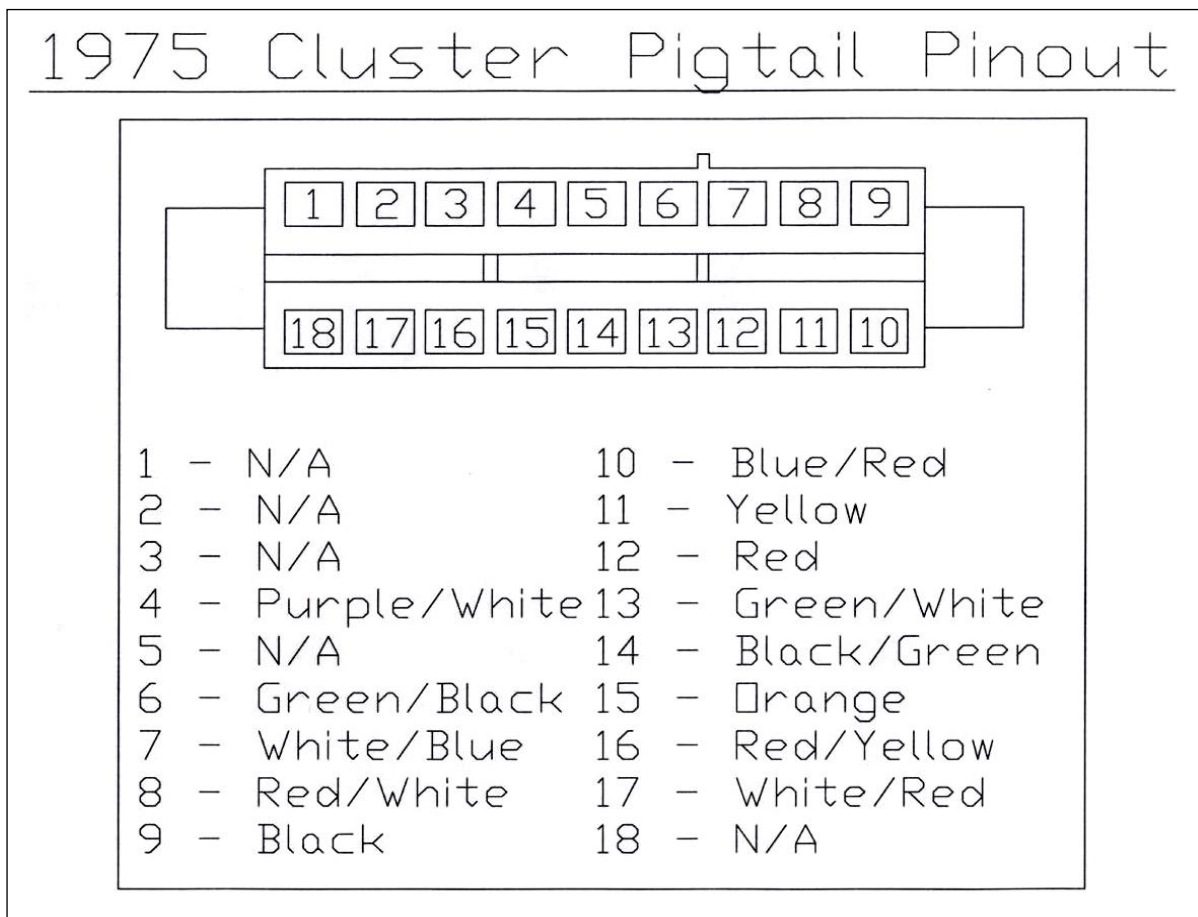

Figure 7-39 1975 Cluster Pigtail Pinout
- 7.18.1** For the years 1975 thru 1977 locate the '75 – '77 Cluster Pigtail in the harness kit. The gauge cluster connectors for 1975, 1976 and 1977 Ford trucks are all the same for the gauge clusters. **The original connector and terminals for the gauge cluster must be reused on all '75, '76' & '77 trucks.** NOTE: A small flat screwdriver may be used to remove the terminals from the original connectors. After removal, it is recommended to solder the old terminals to the new wires in the cluster pigtail. **See Figures 7-39 and 7-40 for the cluster pin outs. Locate the year of the gauge cluster being rewired and follow the diagram for the proper pin out.**